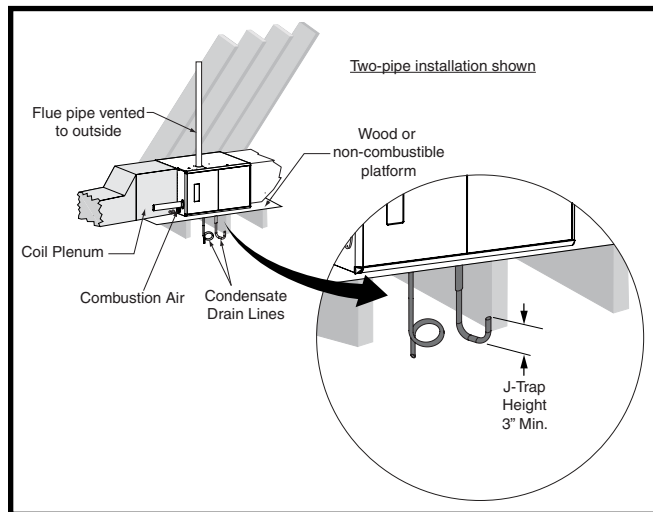
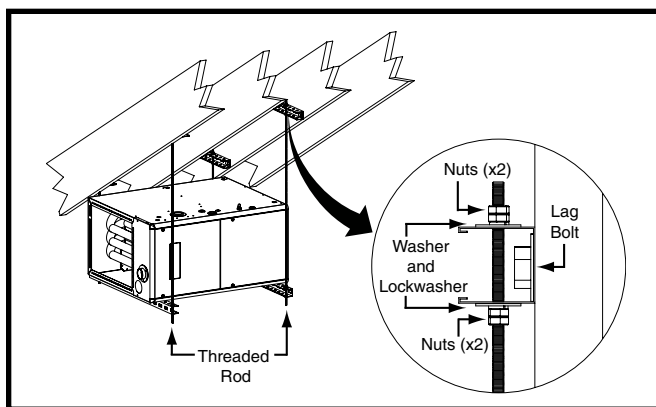

Figure 11. Horizontal installation on a Platform
Figure 12. Horizontally Suspended in an Attic
For Installations where there is limited clearance for the J-Trap (such as an attic where it may be installed between ceiling joists), either side of the J-Trap can be shortened to a minimum of 3 Inches. See Figure 11 (page 13).
*SD series gas furnaces can be installed horizontally (Figure 11) in an attic, basement, crawl space or alcove. It can also be suspended from a ceiling in a basement or utility room in either a right to left airflow or left to right airflow as shown in Figure 12 \(page 14\).
If installing the furnace with an evaporator coil (in an attic), it is required that a drip pan be placed under the furnace. If the installation is on a combustible platform as shown in Figure 11, it is recommended that the drip pan extend at least 12 inches past the top and front of the furnace.
If suspending the furnace from the ceiling, assemble a support frame (Figure 12) using slotted iron channel and full threaded rod. Fasten the frame together with nuts, washers, and lockwashers. Secure the support frame to the rafters with lag bolts. The furnace can also be suspended using steel straps around each end of the furnace. The straps should be attached to the furnace with sheet metal screws and to the rafters with bolts.